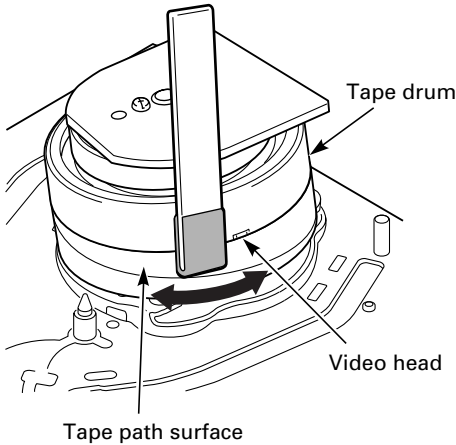

Fig. 2.1
2.1 Cleaning the Tape Drum (Fig. 2.1)